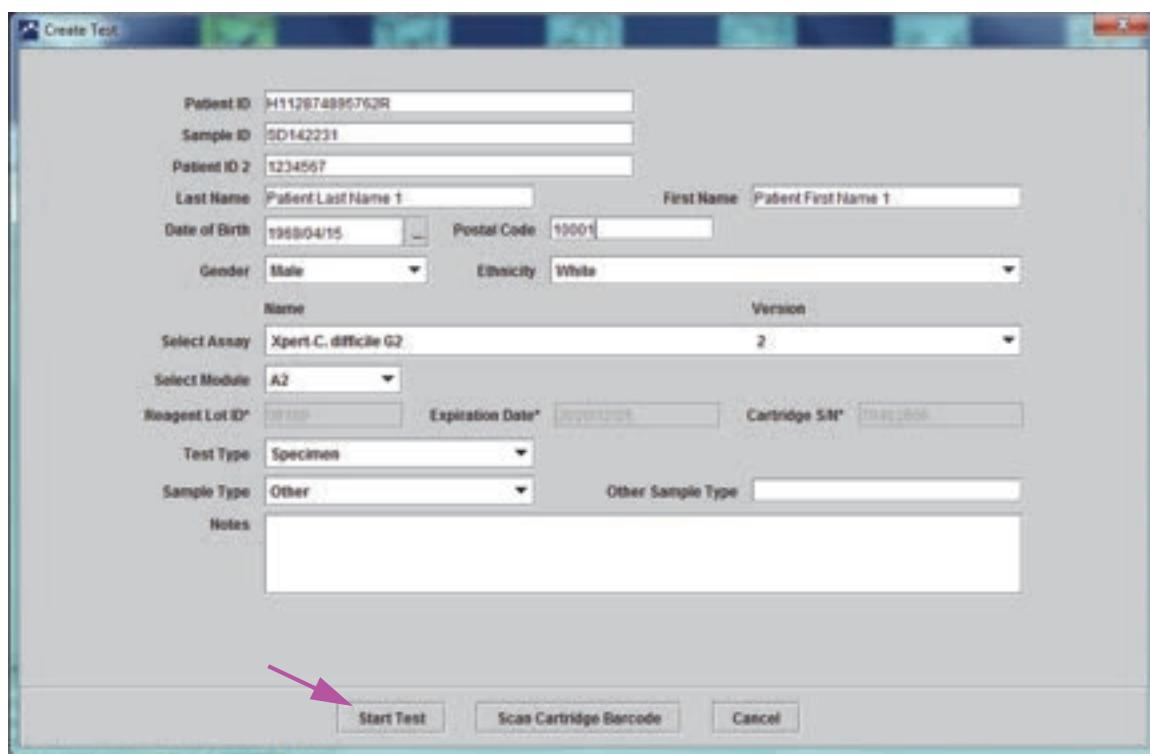

Figure 5-32. Create Test Dialog Box, Ready to Start Test
1. In the Create Test dialog box (see Figure 5-32), click **Start Test**. The software asks for your password (if a password is required to start a test).